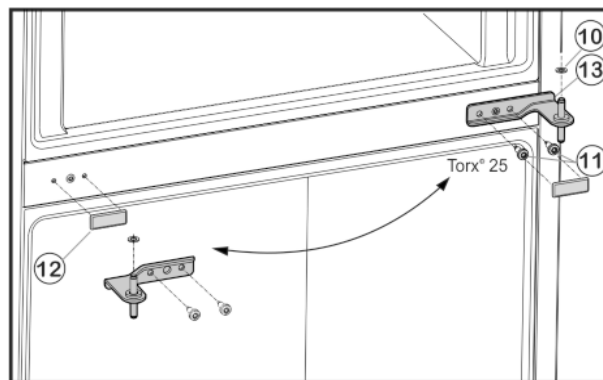

Fig. 6
- ▶ Unscrew the fastening screws Fig. 6 (11) (2 x Torx® 25) and pull the centre bearing block out of the lower door.
- ▶ Remove plastic washer Fig. 6 (10).
- ▶ Remove the cover Fig. 6 (12) carefully.
- ▶ Re-install the cover Fig. 6 (12) on the opposite side.
- Insert the centre bearing block *Fig. 6 (13)* turned through 180° into the lower door and fasten firmly (**with 4 Nm**) to the new hinge side with the fastening screws *Fig. 6 (11)* (2 x Torx® 25).
- Refit plastic washer *Fig. 6 (10)*.
- Set the upper door down on the centre bearing block *Fig. 6 (13)*.